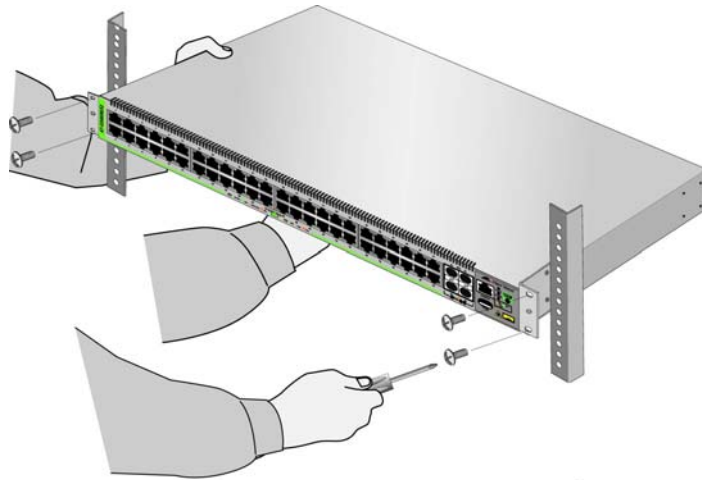

Figure 22. Installing the Switch in an Equipment Rack
4. Have another person hold the switch at the desired location in the equipment rack while you secure it using four standard equipment rack screws (not provided). Refer to Figure 22 on page 56.